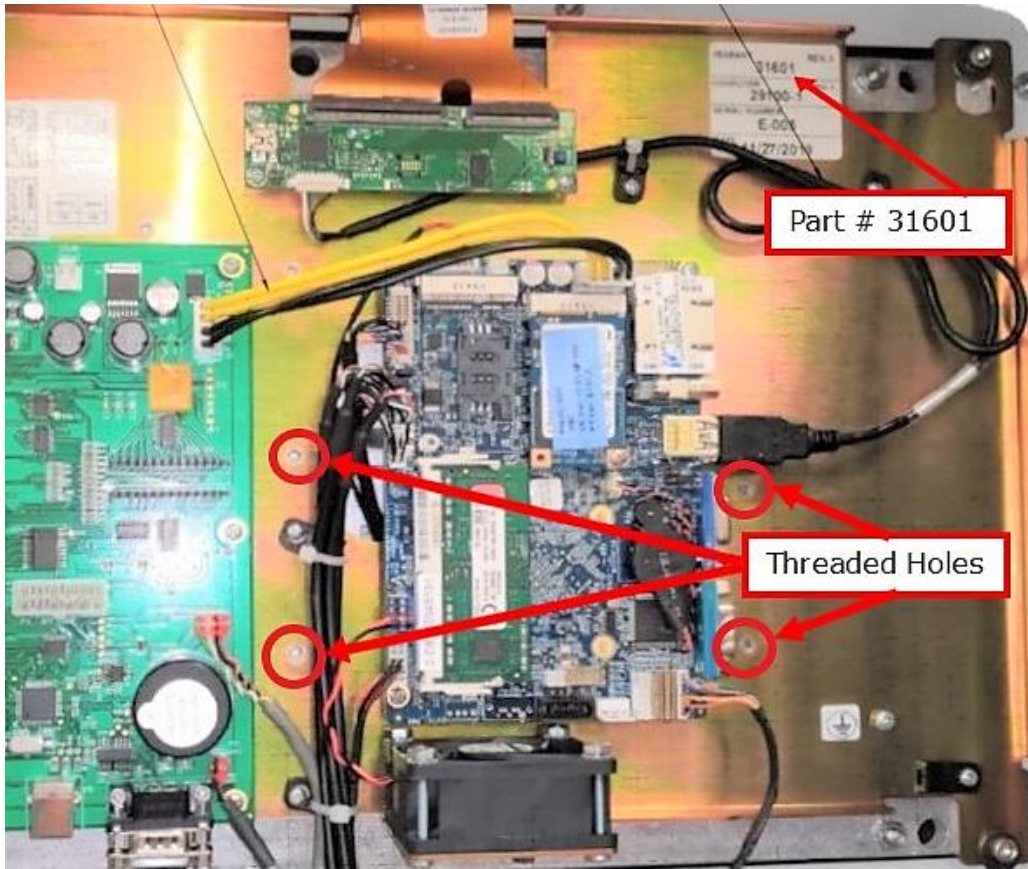

Figure 6.1.7a
3. Use the four standoff studs and place them in the threaded holes that match the pattern for the memory bracket as shown in Figure 6.1.7a. These do not need to be very tight, just firm. Align the bracket on the four standoffs and use the supplied screws and tighten just past finger tight.